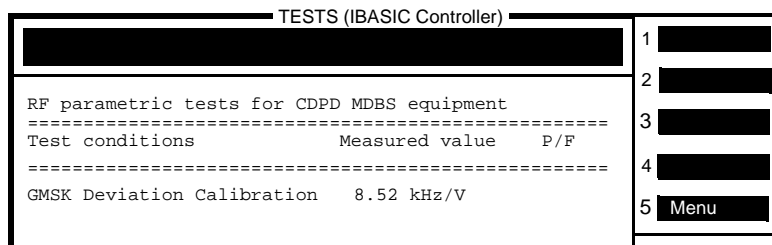

Figure 57
- b. From CALIBRATIONS menu, select (3) **GMSK Deviation Calibration**, an equipment cable-hookup screen appears.
- d. Press the k2 (**Continue**). Wait for the **GMSK Deviation Calibration** measured value to appear, figure 57. WRITE DOWN the measured value for later use.